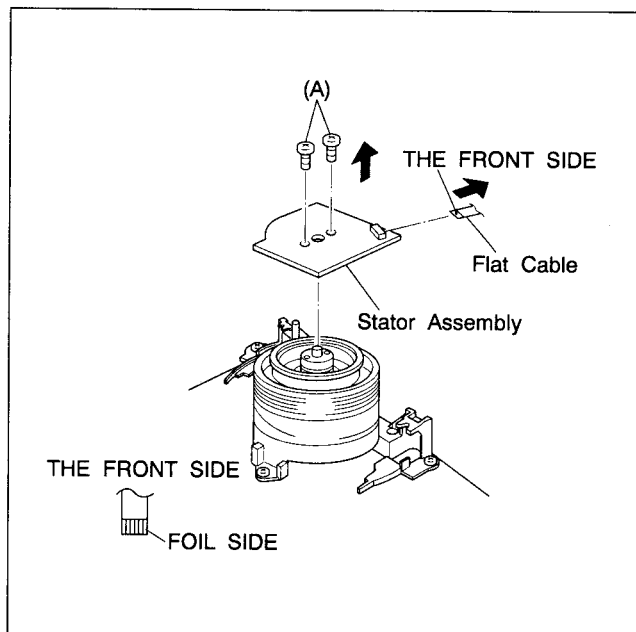

Fig. 2-5-22
- (3) Align the upper drum assembly and rotor assembly phase as indicated in Fig.2-5-22.